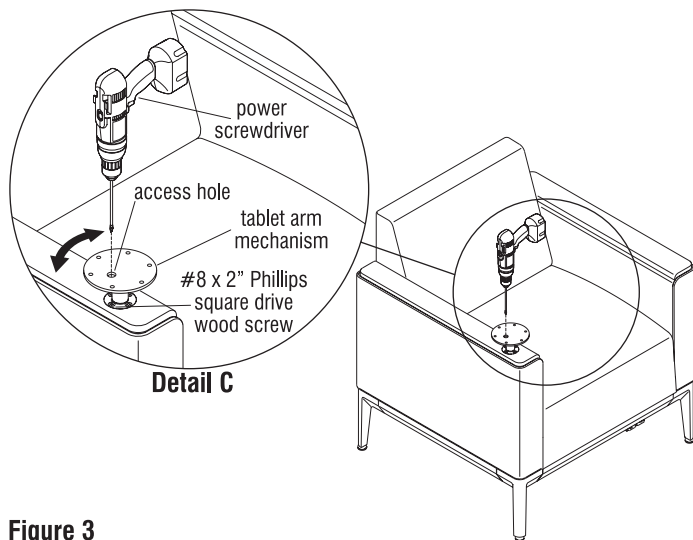

Figure 3
with the next screw, and twist out until all four screws are removed. The tablet board mechanism can now be removed from the armcap (Figure 3).
2. With the tablet board removed, align the access hole on the tablet board mechanism with one of the #8 x 2" Phillips square drive screws that attach the tablet arm mechanism to the armcap. Using a power screwdriver with a long reach Phillips or square drive bit, insert the bit through the access hole to reach the screw and remove it. Rotate the tablet arm mechanism to align the access hole with the next screw and repeat until all four screws are removed. The tablet board mechanism can now be removed from the armcap (Figure 3).